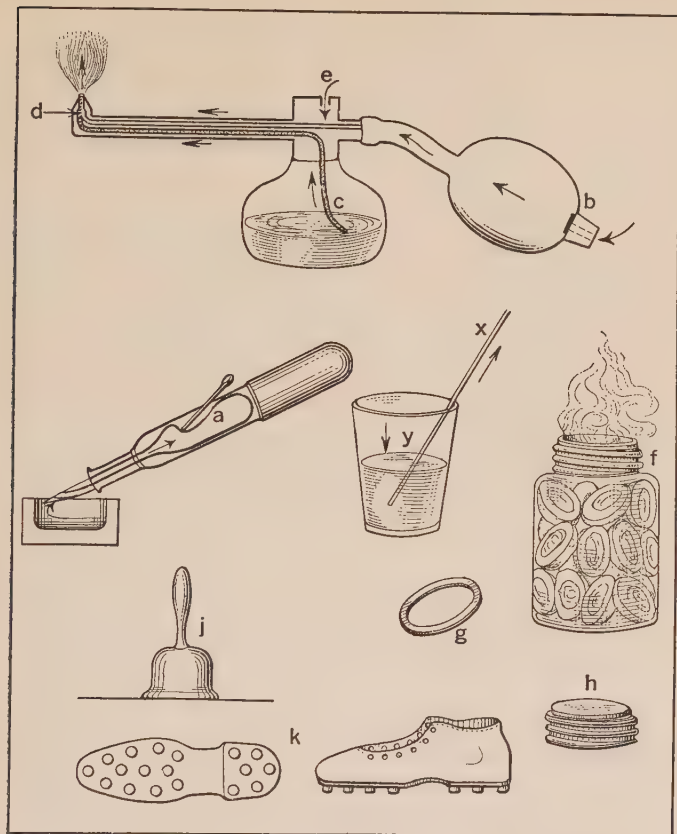

FIGURE 35.—SOME PRACTICAL USES OF ATMOSPHERIC PRESSURE.
61. Sealing Jars. — The so-called “suction” or vacuum principle is used with success by the housewife in the sealing of jars. The fruit or vegetable is cooked and placed in the jars while boiling hot. Steam drives out most of the air. (Compare this with the condition in the varnish can just before the cork was put in place, page 76.) The rubber ring is then placed on the jar top and the cover screwed or otherwise fastened on (Fig. 35). What is the use of the rubber ring? The top soon becomes tightly fastened to the jar even before sealing. Account for this. What keeps the jar sealed? What must often be used to get the top off the jar when the contents are wanted for use? Explain. (Key Picture 4.)
66. Other Uses of Atmospheric Pressure in the Home. — You have considered fully a very few of the many uses to which atmospheric pressure may be put, due to its weight. Explain on what principle the articles shown in Figure 35 work and what their common uses are.